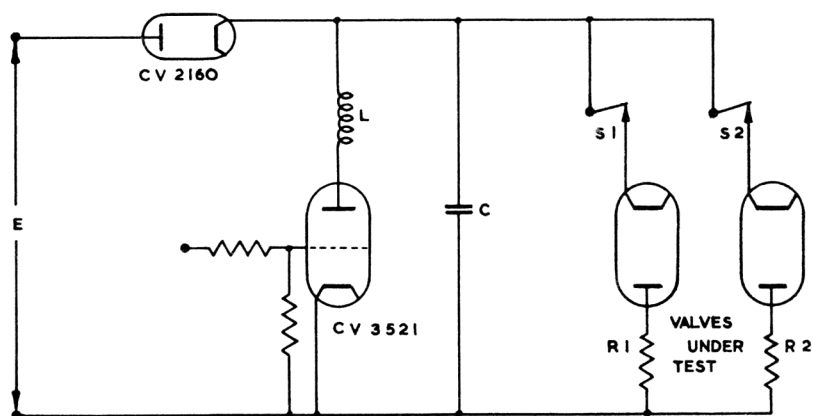

FIG. 2
4. This test is performed in a simulated test equipment, see page 8, figure 2. The component values in this circuit are as given below:-